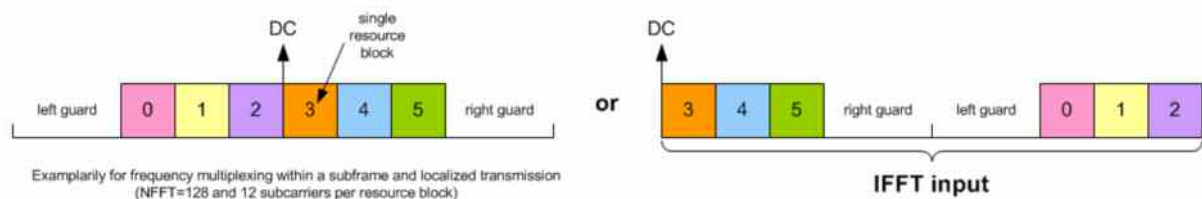

Fig. 8 Numbering of Resource Blocks
- For localized transmission, the numbering of resource blocks starts with the left-most (lower frequency) used subcarriers of the frequency band. The numbering starts with zero. With the FFT-shift the DC carrier is moved to the first position, which is required to be conform to the standard IFFT input. This is illustrated in Fig. 8.